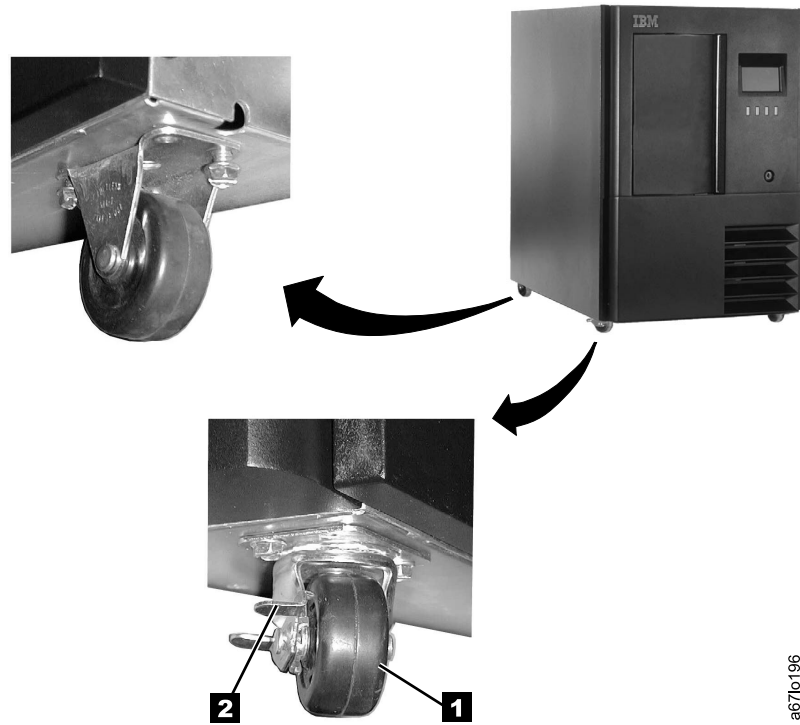

Figure 13. Locking front casters
2. Lock the two front casters **1** in place by turning the latch **2** counterclockwise (see Figure 13).